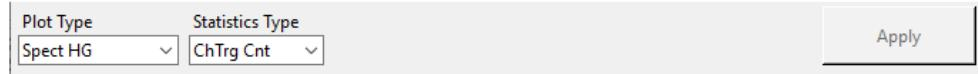

Fig. 10.23: The Command bar with the "Spect HG" option selected for the "PlotType" parameter.
7. Click on the "Plot Type" parameter on the Command bar in the top part of the Janus GUI (see Fig. 10.23) and select "Spect HG" or "Spect LG" in order to visualize the pulse height spectra from the HG or LG amplification chain in the *gnuplot* window.